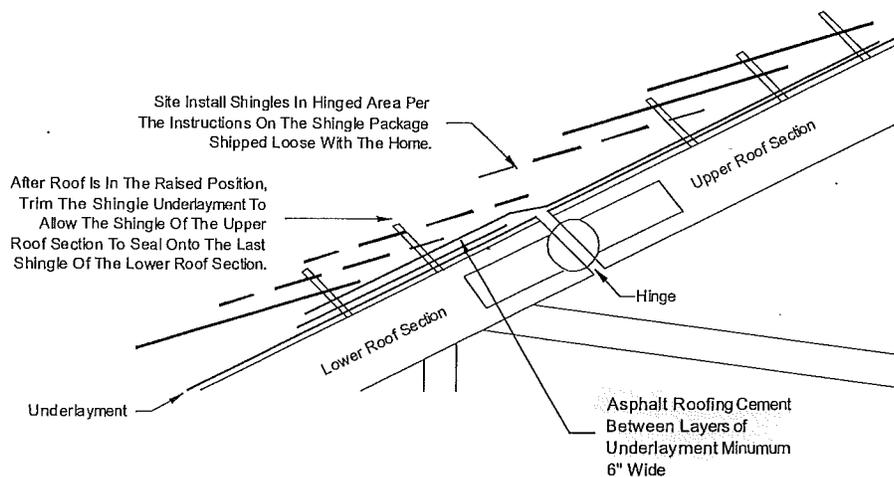

**Figure 44.** Shingle cut into thirds
4. **Install shingle cap.** Starting at the opposite end of the home from the prevailing wind, install ridge cap shingles provided by the manufacturer or use 12" x 12" shingles (36" shingles cut into three equal pieces) (Figure 44). Install using 1" x 1" x 16 ga galvanized staples or 12 ga 1-1/4" long, 3/8" diameter head roofing nails spaced 5-5/8 inches from bottom edge and 1/2 inch to 1-1/2 inches in from both edges. Cover the exposed fasteners with tar or cement.